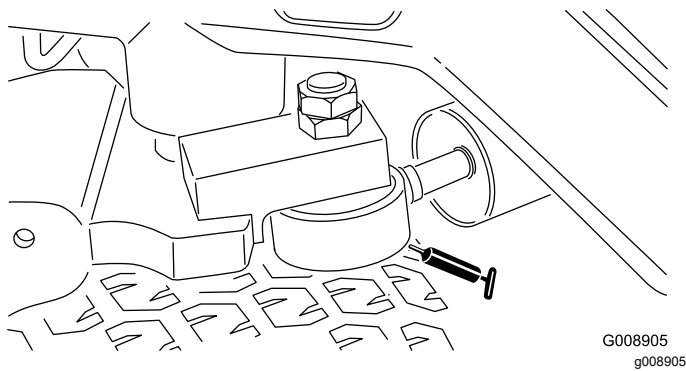

Figure 43
**Note:** If desired, an additional grease fitting may be installed at the other end of the steering cylinder. Remove the tire, install the fitting, grease the fitting, remove the fitting, and install the plug (Figure 43).